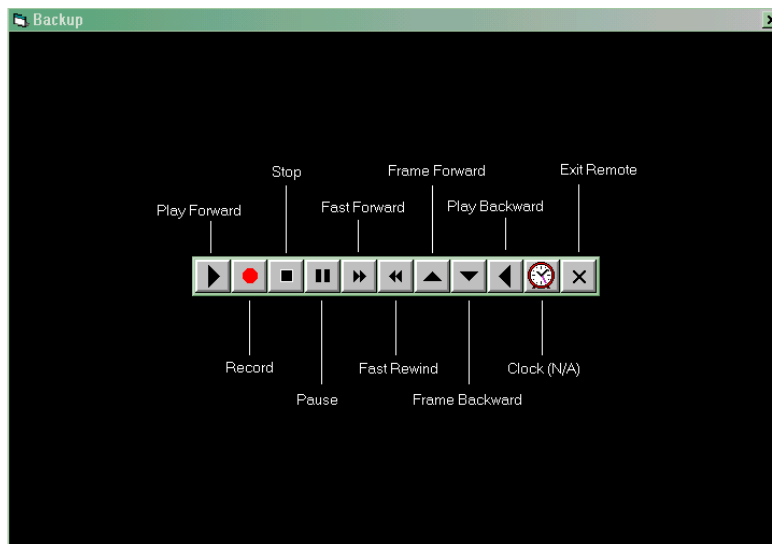

Figure 16
- Selecting REMOTE brings up a virtual control panel that you can use to control all PLAYBACK functions, from PLAY, PAUSE, REW, FF, etc. See Figure 16. You can still use the buttons on the Digital BUS-WATCH to control video playback.